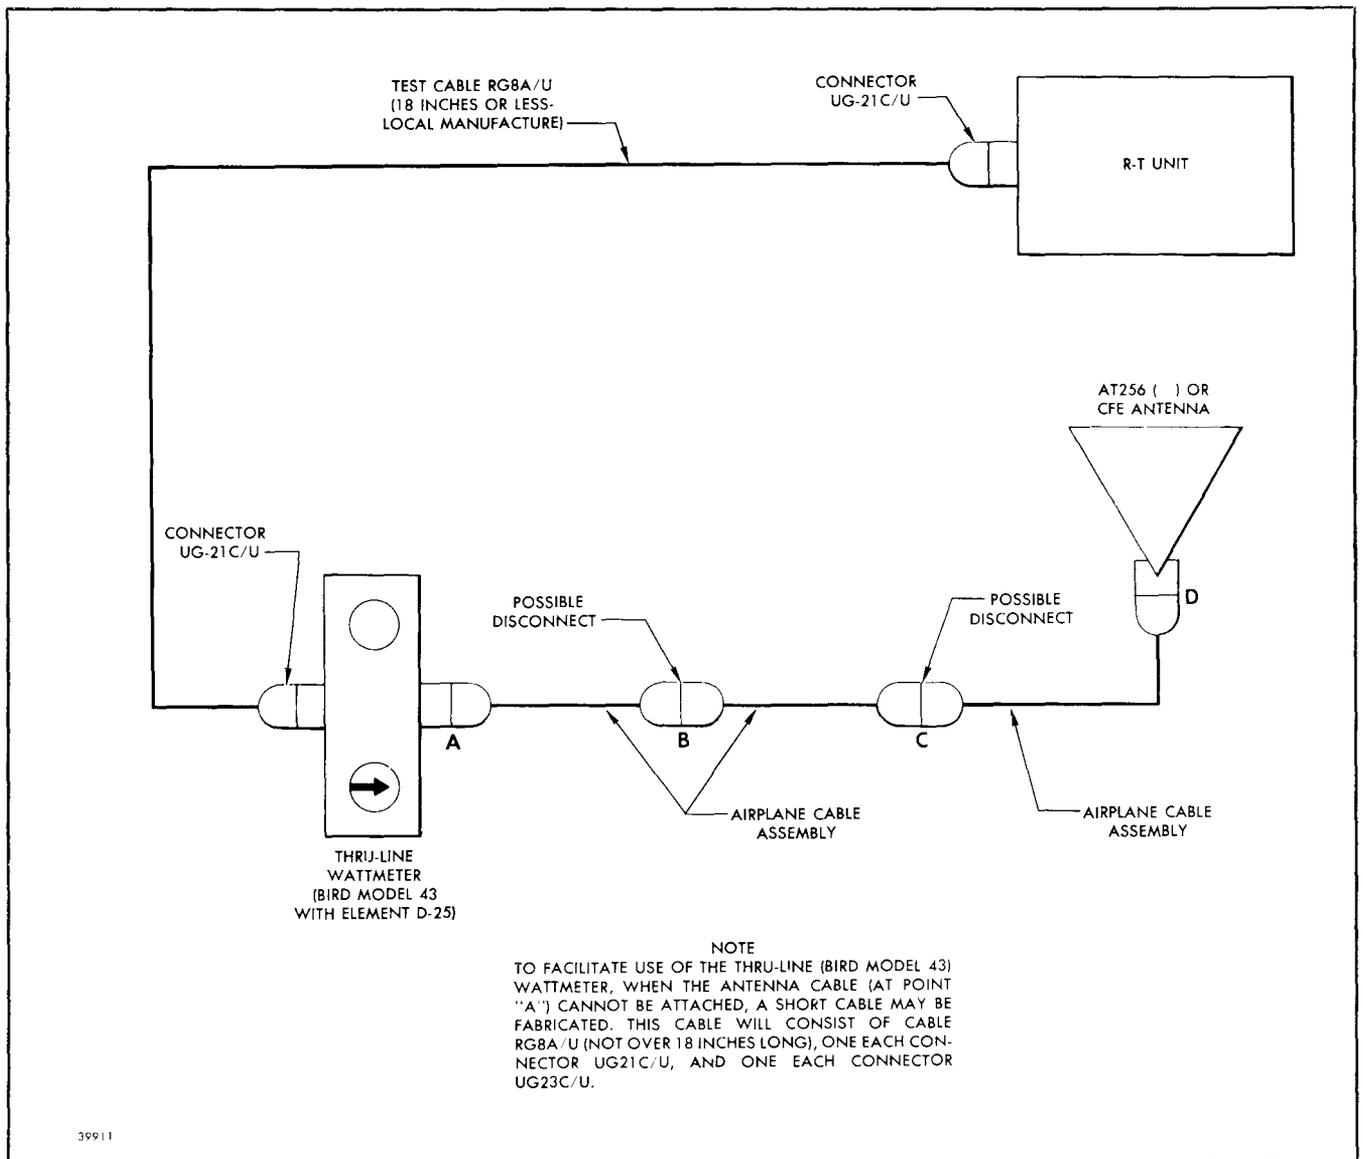

Figure 5-5. Antenna and Power Transmitter Elements, Test Hookup
- a. Connect thru-line wattmeter at point A of figure 5-5. It is imperative that test cable not be defective.
a. Insert wattmeter at antenna, point D of figure 5-5, using test cable, and, with arrow pointed to antenna, read transmitted power.
Length of cable RG-8A/U or RG87A U	Percent power delivered as compared to reading at point A, figure 5-5.
a. Insert wattmeter at point D of figure 5-5, using test cable connected to antenna.